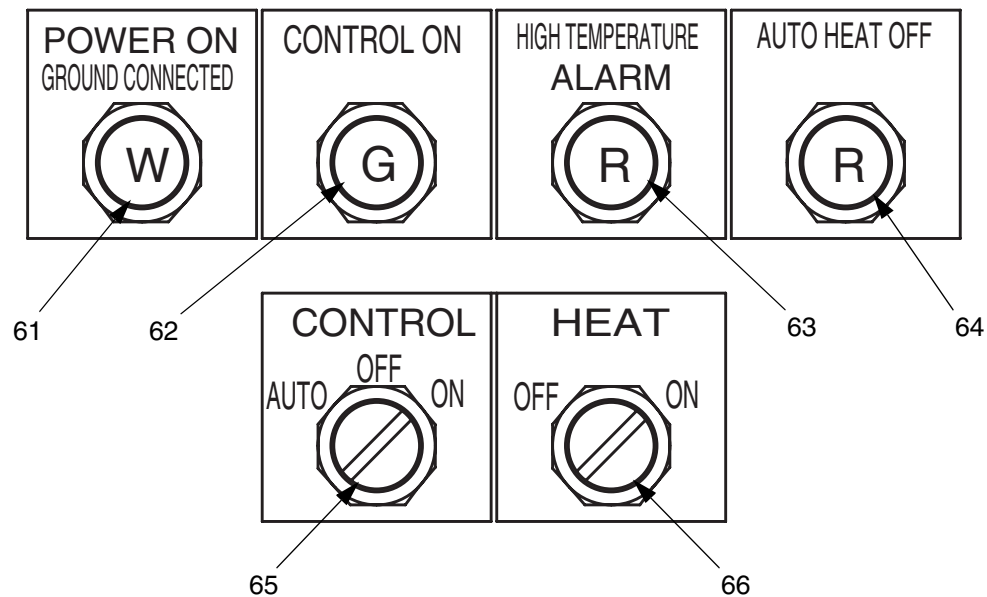

FIG. 5
2. Turn the CONTROL switch (65) to ON. FIG. 5, page 17.
1. Turn the CONTROL switch (65) to AUTO. FIG. 5, page 17.
2. Turn the HEAT switch (66) to ON.
1. Turn the CONTROL switch (65) to OFF. FIG. 5, page 17.
- b. Turn the CONTROL switch (65) to OFF. FIG. 5, page 17.
Use the table and FIG. 5 below to read electrical control panel indicators. For information on setting the temperature controllers, see **Setting Temperature Controllers** in Manual 309100.
Should a component temperature go outside the preset range for any of the zones, power to heated components is interrupted, and the HIGH TEMPERATURE ALARM light turns ON. FIG. 5, page 17. The alarm automatically turns OFF and the system resets when the temperature is back in range.